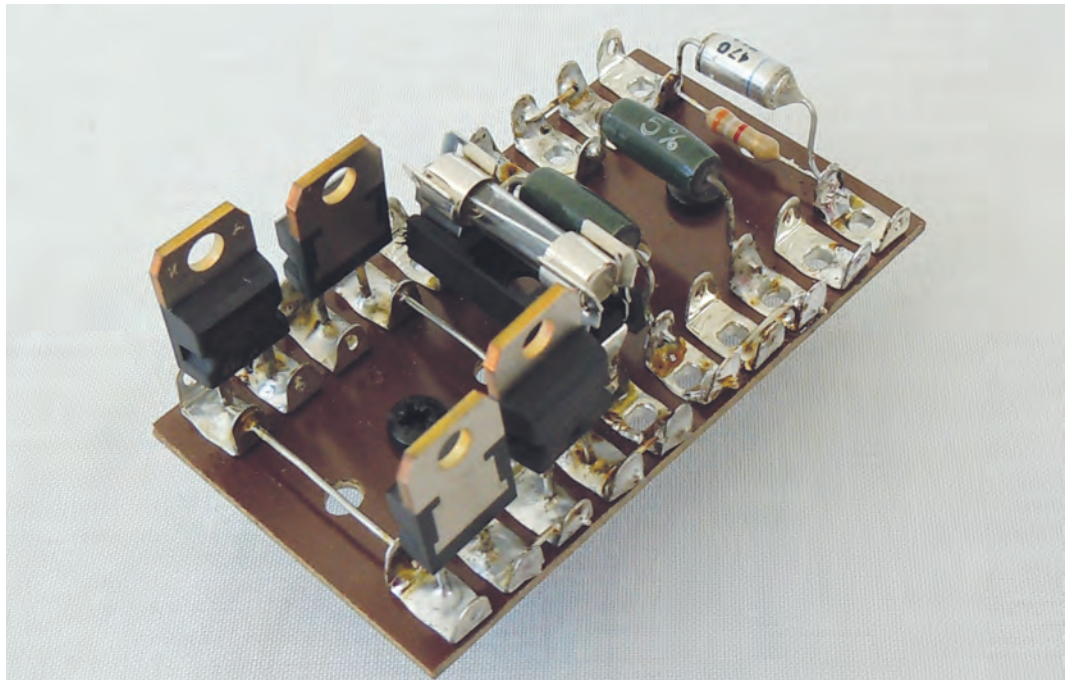

Fig. 14 Heater Power Supply Tag Board
**Fig. 14** Take the longer PS board (with the 47R resistors and the fuse) and, using M3x6 screws, fix it to the chassis to the left of the mains transformer. The diodes should be positioned towards the front of the amplifier.